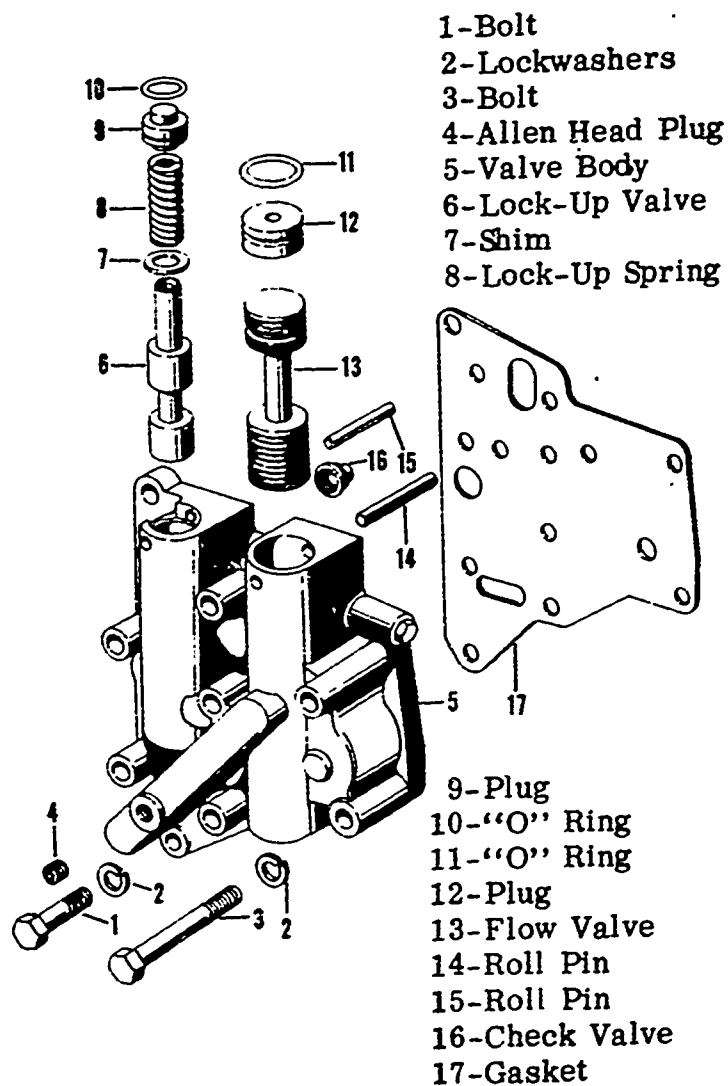

Fig. 3 Exploded view of lock-up and flow valve
Pitot pressure can be checked by removing the Allen head plug from the cored passage running diagonally cross the valve body; see Figure 3 (4). Install a pressure gage to obtain a pressure reading. Pitot pressure should range between zero and 90 psi, depending on the turbine shaft rpm.
DESCRIPTION - (NOTE: Refer to Figure 3 for the following discussion). The lock-up valve assembly, which is mounted to the right side of the converter housing, contains the lock-up valve (6), spring (8), plug (9) and flow valve (13).